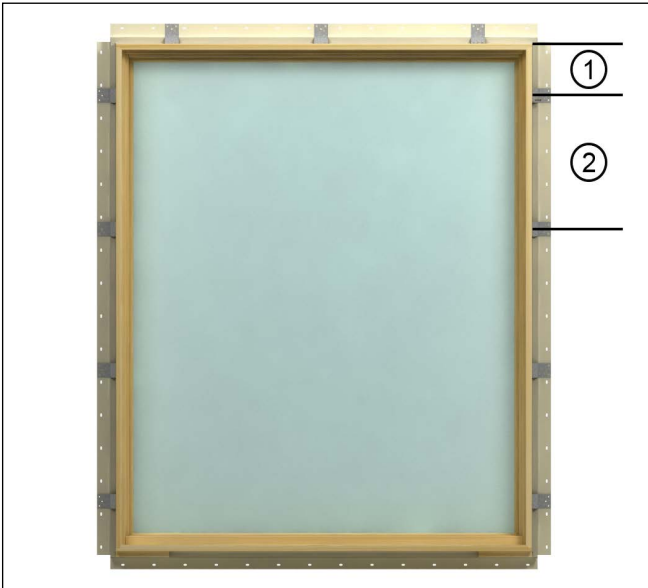

Figure 1
1. Attach clips to the unit jambs and head jamb (and sill for Round Tops) with #7 x 5/8" screws 6" maximum from each corner and 18" maximum. For ELIFD Impact instructions, refer to the Elevate Inswing Installation Instructions. See Figure 1.